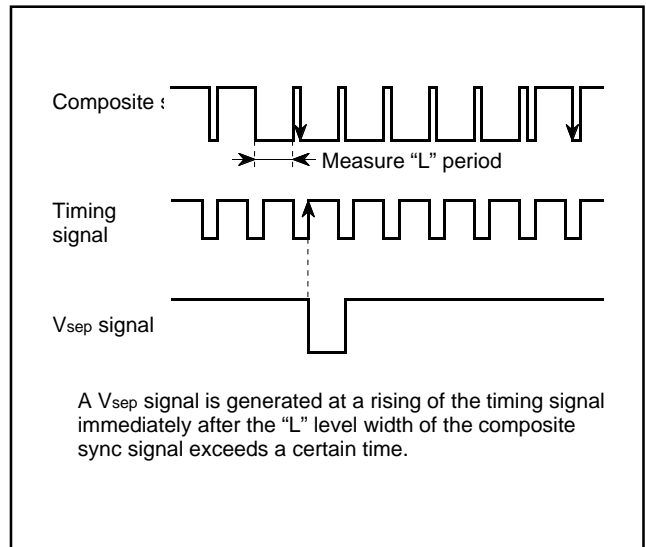

Fig. 8.10.6 Vsep Generating Timing (method 2)
- Method 2 The "L" level width of the composite sync signal is measured. If this width exceeds a certain time, it is detected whether a falling of the composite sync signal exits or not in the "L" level period of the timing signal immediately after this "L" level. If a falling exists, a Vsep signal is generated in synchronization with the rising of the timing signal (refer to Figure 8.10.6).
Figure 8.10.6 shows a Vsep generating timing. The timing signal shown in the figure is generated from the reference clock which the timing generating circuit outputs.